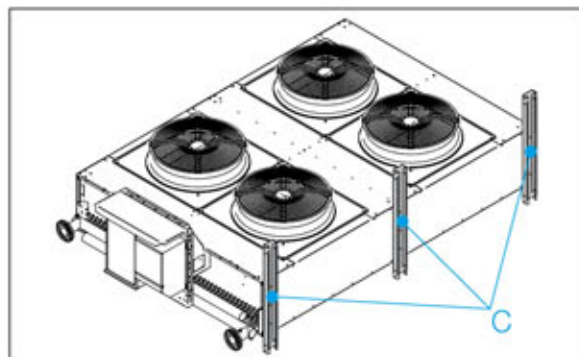

FIG.28
- Démonter les barres support "C" (FIG.28).